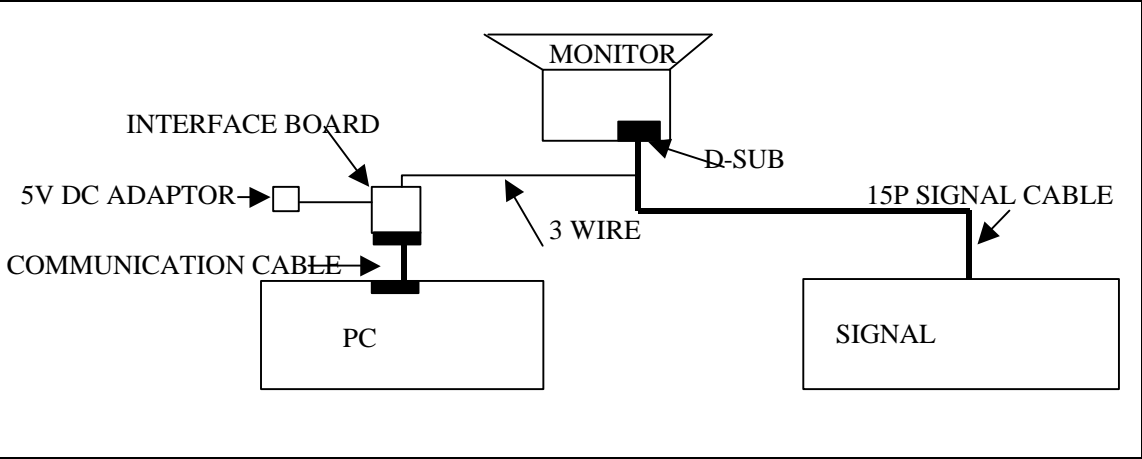

Figure 1-1 : When using SIGNAL GENERATOR
2. Set the equipment such as FIGURE 1-1 to adjust all the PRESET MODE.
(Please follow figure 1-1 because it is the most conventional and recommended method.)